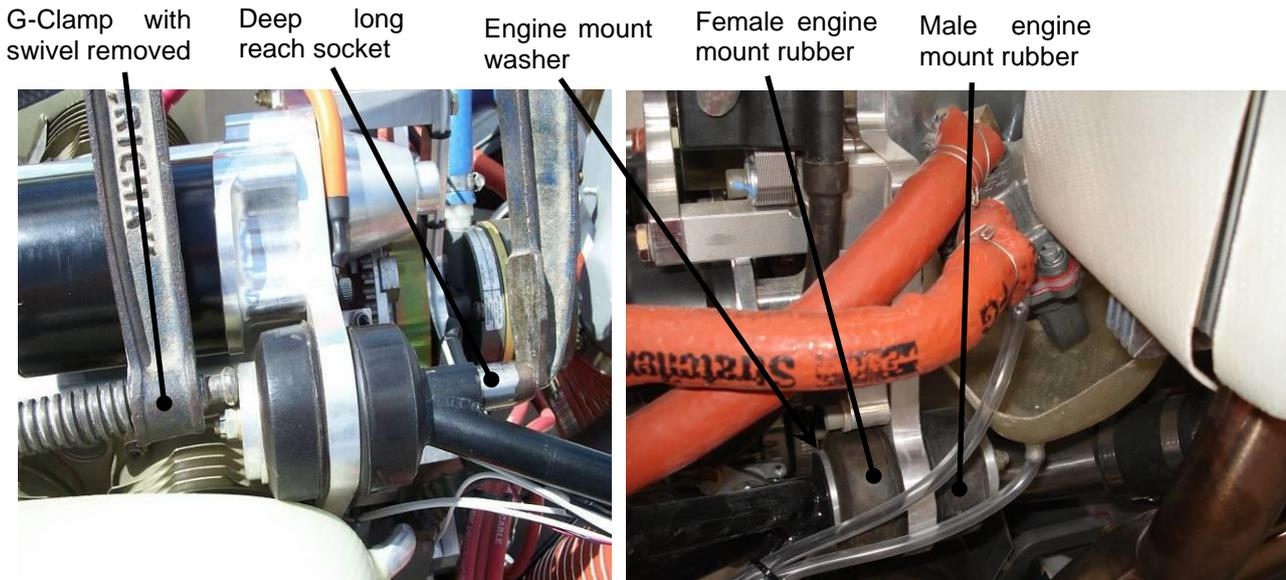

Figure 44 Upper & Lower Engine Mount Detail
- To place the nuts on the mount bolts the rubbers must be compressed. Do this by using a deep reach socket inside the engine mount pins & clamping the rubber mount assembly using a G-clamp with the swivel taken off the ball. See Figure 44. Start nuts on both upper mount bolts.
- Connect the fuel line to fuel pump (Refer to Figure 44). Ensure the fireproof sleeve is in place.
- Ensure that the fuel overflow line is in place, and secured to vent overboard. This is the small, clear hose shown leading from the fuel pump in Figure 44.